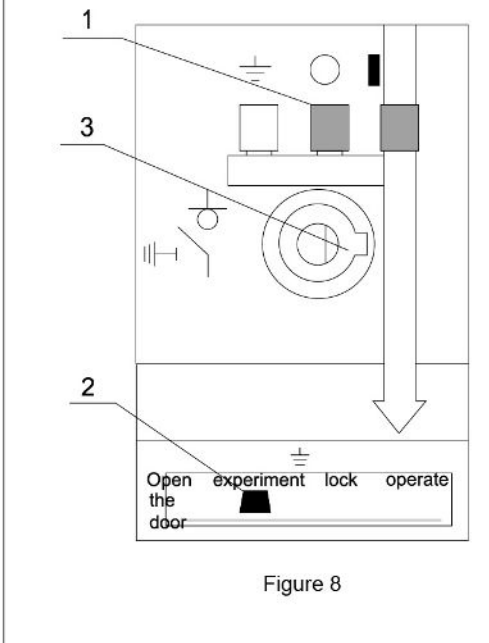

Figure 8
Place the load switch location indicator to the earthing site, shown in Figure8 (1). The selector is placed on the test site, shown in Figure8 (2). Check the shaft ratchet which should be vertical as indicated in Figure8 (3). Insert the operation handle to the slot, then make the guidance key match the slot shafting, turn it with approximately 80 degrees clockwise until it is breaking.